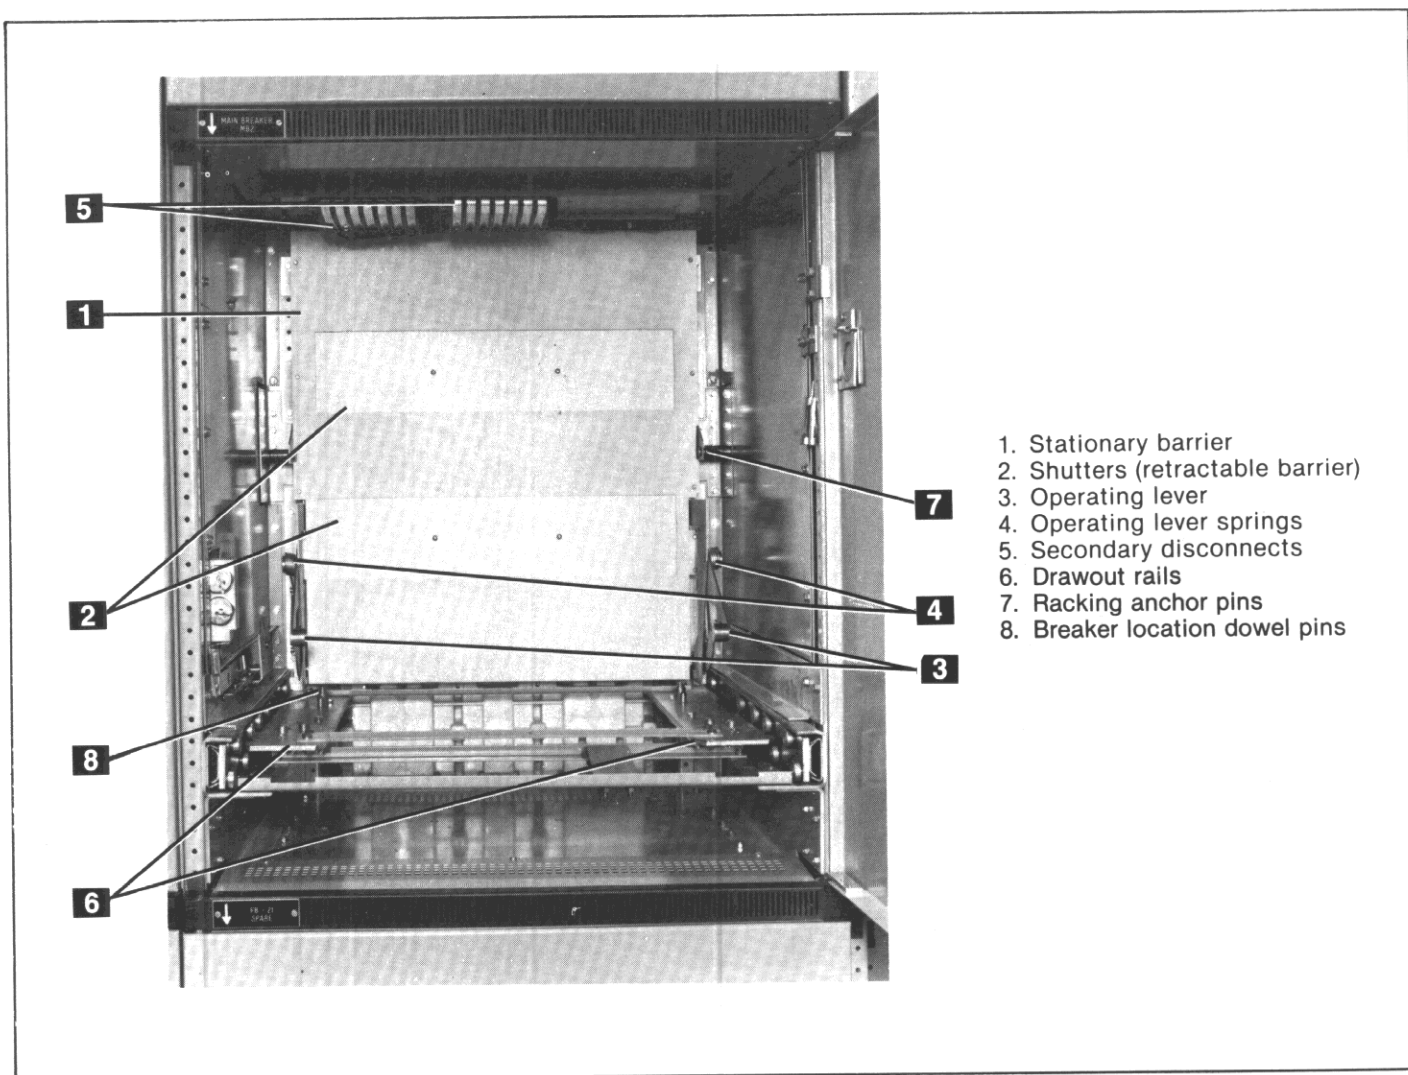

Fig. 3-8. AKD-8 primary disconnect shutter assembly (30-inch wide rollout carriage and compartment for AKR-75/100 breakers)
Primary disconnect shutters, Figs. 3-8 and 3-9, are available as options to provide protection against contact with the energized stationary primary disconnects when the breaker is removed from its compartment. Shutters are supplied as standard components in the main and tie breaker compartments of double-ended substations or dual-fed switchgear; additionally, they are standard components in compartments containing reverse-fed devices (i.e. those compartments where the line terminals are the bottom primary stabs). The shutters are constructed from glass-reinforced polyester insulating material.
Referring to Fig. 3-8, the combination of the stationary barrier (1) and the shutters (movable barriers) prevent frontal access to the primary disconnect line and load power stabs.
The shutters are not retracted as the circuit breaker is racked from the Disconnect Position to the Test Position. This arrangement allows the breaker control circuits to be completed through the secondary disconnects (5), Fig. 3-8, for testing purposes while the shutters remain interposed between the primary power stabs in the equipment and the primary disconnects on the circuit breaker.
Circuit breakers mounted in 22-inch wide compartments (AKR-30, AKR-50, AKRT-50, etc.) are supported on drawout rails (6), Fig. 3-7. The larger AKR-75 and AKR-100 circuit breakers and fuse rollout carriages are installed in 30-inch wide compartments and are supported on drawout rails (6), Fig. 3-8.
Note that extra items shown in Figs. 3-8, 3-9, and 3-10 (such as secondary disconnects, current transformers, position switches and ground sensor secondary disconnects) may appear in any compartment or not be included at all, depending on the equipment specified. Primary disconnects are equipped with short-circuit braces when breakers are fused or when extra-deep breaker compartments are used.
The racking arm slots engage fixed racking anchor pins (7), Fig. 3-8, mounted in the breaker compartment. As the racking arms are rotated by operation of the breaker racking crank, the breaker is pulled into the compartment, and locked in its final connected position.